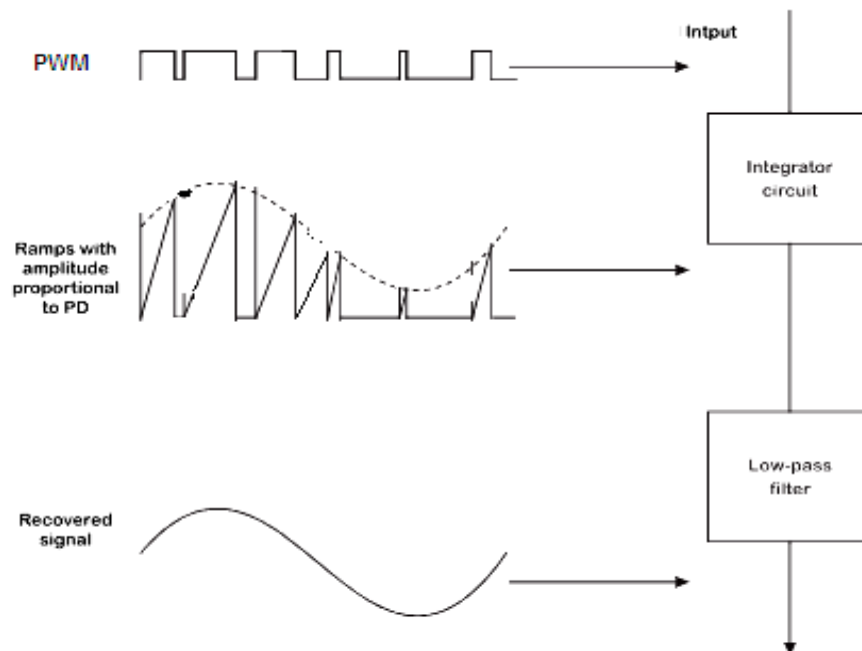

Fig.3.10(b) Detection of PWM wave
- ❖ The block diagram of PWM demodulator is shown in fig 3.10.